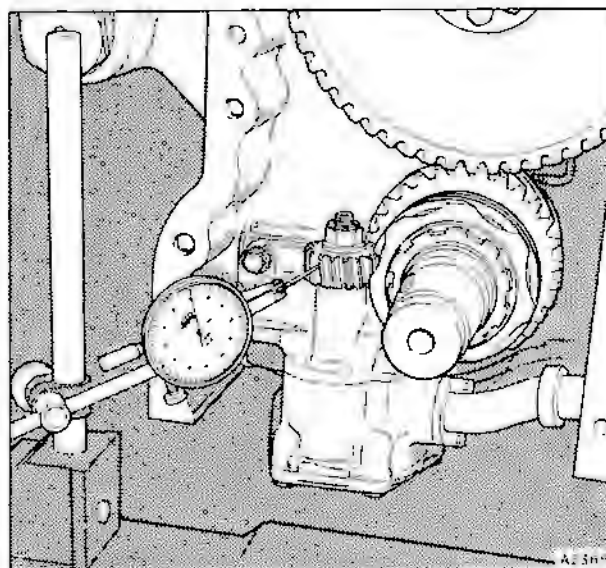

Fig. E10-2 Checking backlash of oil pump gears
5. Ensure that the backlash between the driving gear on the crankshaft and the gear on the pump is correct (refer to Section E4, Dimensional data and figure E10-2).